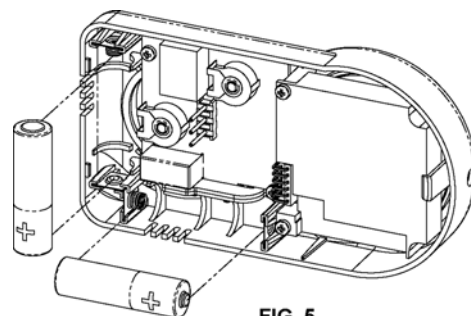

FIG. 5
8. Insert 2 1,5V AA batteries in the thermostat body, paying attention to the polarity (see fig. 5).